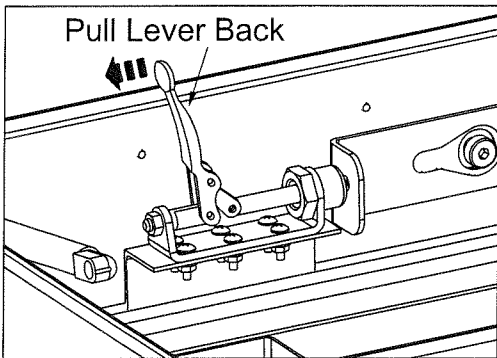
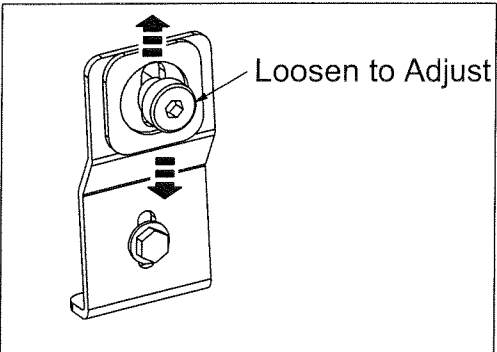
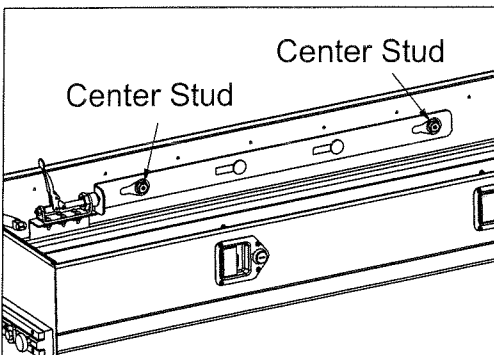

Fig. 10
Fig. 11
Fig. 12
13. Open the Tool Box (#1) and pull the rear latch lever back (Fig. 10). This will open the rear sliding bracket. Next, slide the tool box forward slowly towards the Mounting Brackets (#2). Adjust the horizontal location and height of the Mounting Brackets (#2) at the bolt along the slot in order to center the shoulder bolt in the opening of the rear sliding bracket (See Fig. 12) If further adjustment of the height of the Mounting Brackets (#2) is necessary, go to the next step to adjust the shoulder bolt. (See Step 14 and Fig. 11).